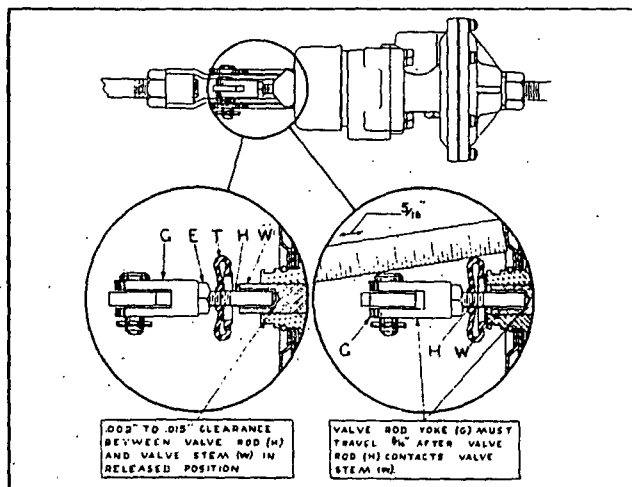

Fig. 10
2. The only external adjustment of the valve is the valve rod (H), which is threaded into yoke (G). This adjustment is made with the engine *shut off*. (Fig. 10)
3. Loosen lock nut (E). Remove rubber guard (T) from the valve housing as shown. Now adjust valve rod (H) to obtain a slight clearance (approx-
4. After making the above adjustment, check the total travel of the valve stem (W) as follows:
Place a scale, graduated in sixteenths of an inch, near the valve rod yoke with the end against the dust cover, as shown in Figure 10. Now carefully apply the brake pedal just enough to take up the clearance between the valve rod (H) and valve stem (W). At this point, note the position of the yoke (G) in relation to the scale.